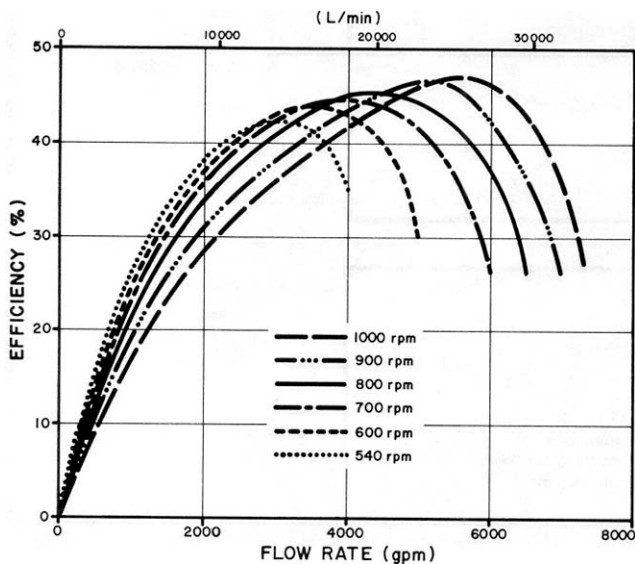

FIGURE 4. Pump Efficiency of the Lloyd's Model RE-140 at Various Flow Rates and Power Take-off Speeds.
**Pump Efficiency:** FIGURE 4 shows the pump efficiency of the model RE-140 at various flow rates and power take-off speeds. A peak efficiency of 47% occurred at a 1000 rpm power take-off speed and 5500 gal/min (25,000 L/min) flow. Peak efficiencies at other power take-off speeds were less.